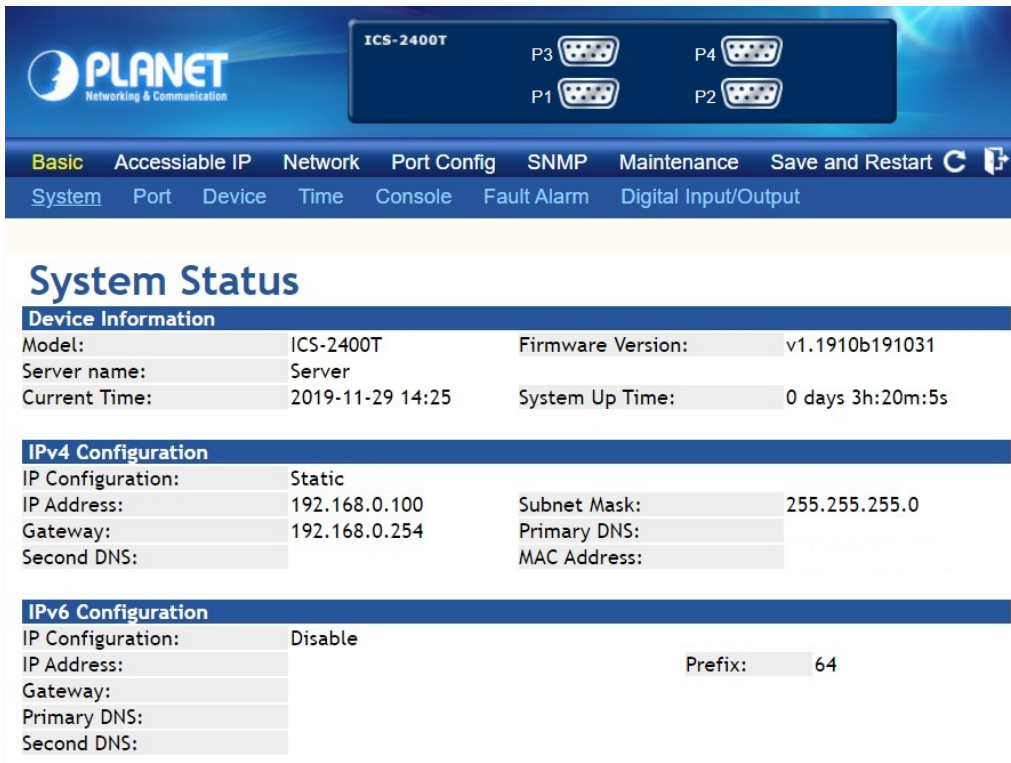

Figure 3-2-3: Web Main Screen of Industrial Serial Server
3. After entering the password, the main screen appears as shown in Figure 3-2-3.